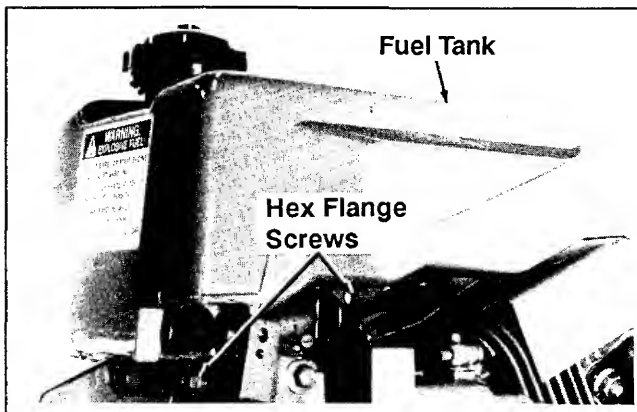

Figure 9-7. Removing Fuel Tank And Fuel Line.
3. Remove the hex. flange screws securing the fuel tank to the engine. See Figure 9-7.